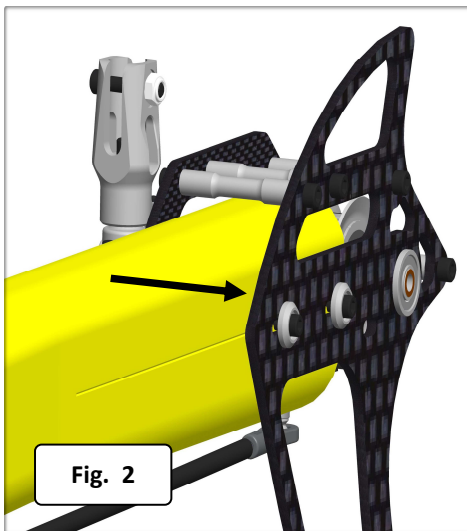

Fig. 2
•Check the screws that are highlighted in the following images frequently, make sure you remain tight (fig.2 and fig.3).